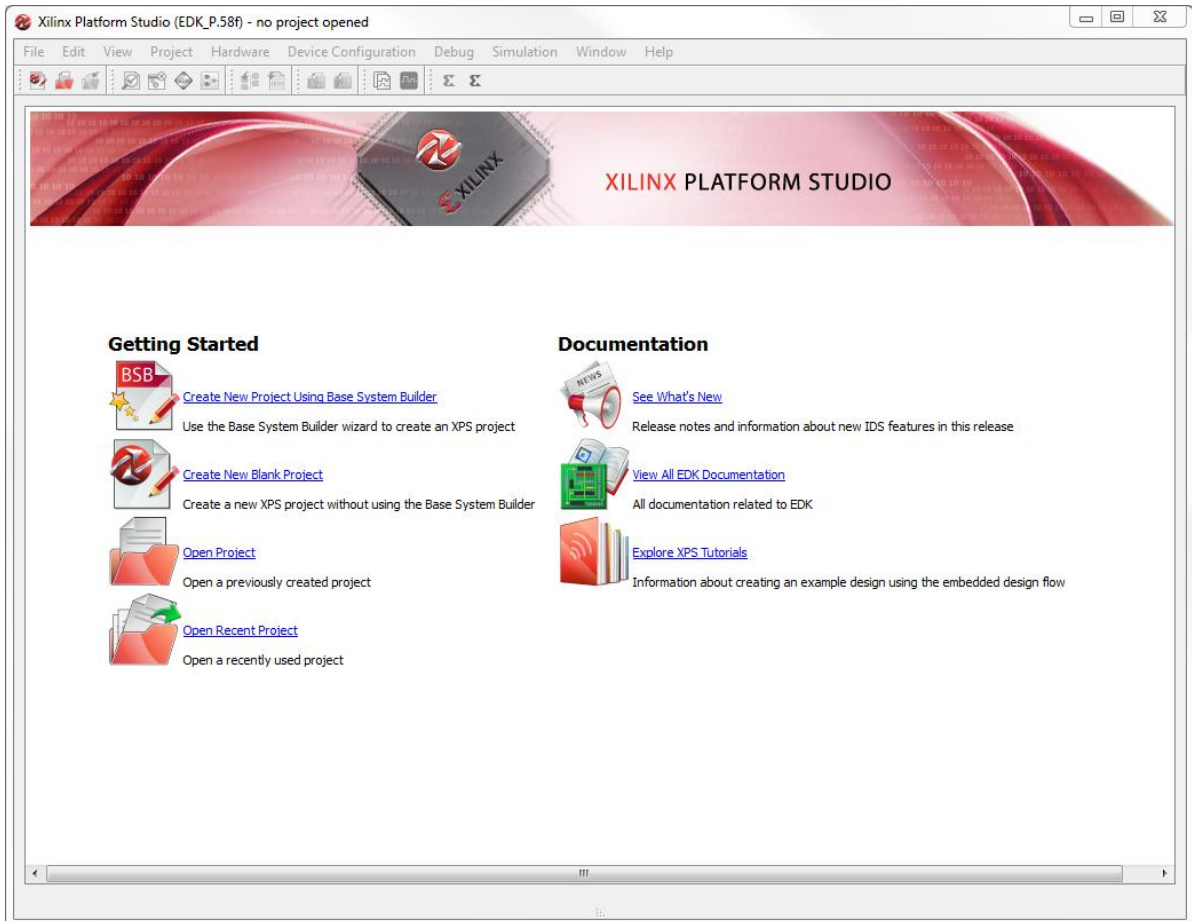

Figure 3: Xilinx Platform Studio
1. Launch the XPS tool, and pick **Create New Project Using Base System Builder** Figure 3.